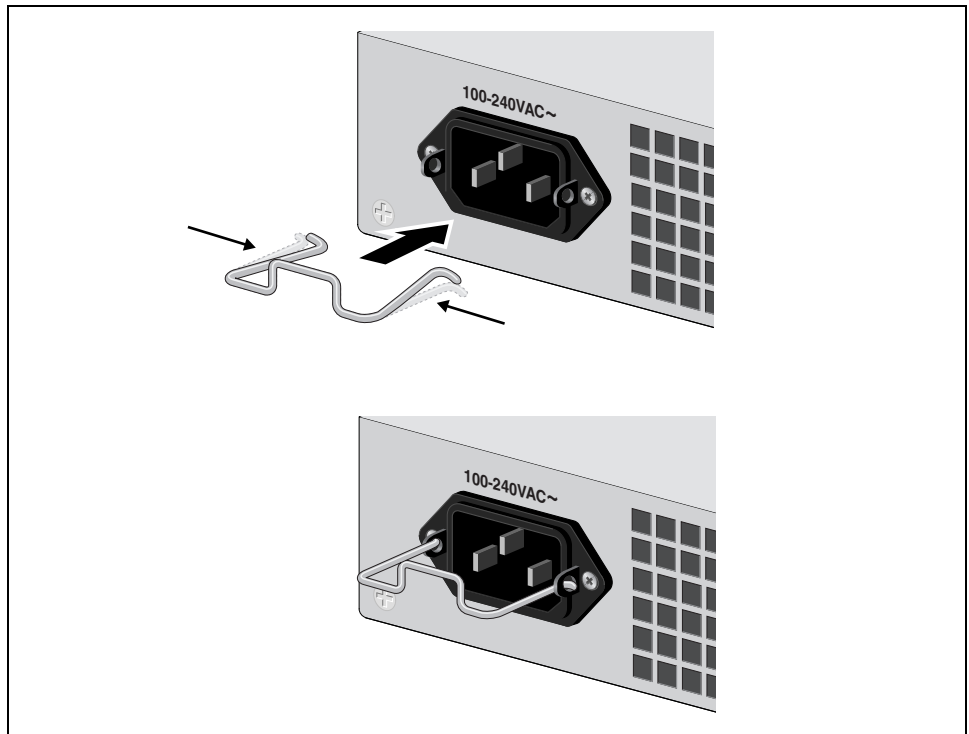

Figure 22. Inserting the Retaining Clip into the Retaining Bracket
2. Install the clip on the AC power connector on the rear panel of the switch. With the “u” of the clip facing down, press the sides of the clip toward the center and insert the short ends into the holes in the retaining bracket, as shown in Figure 22.